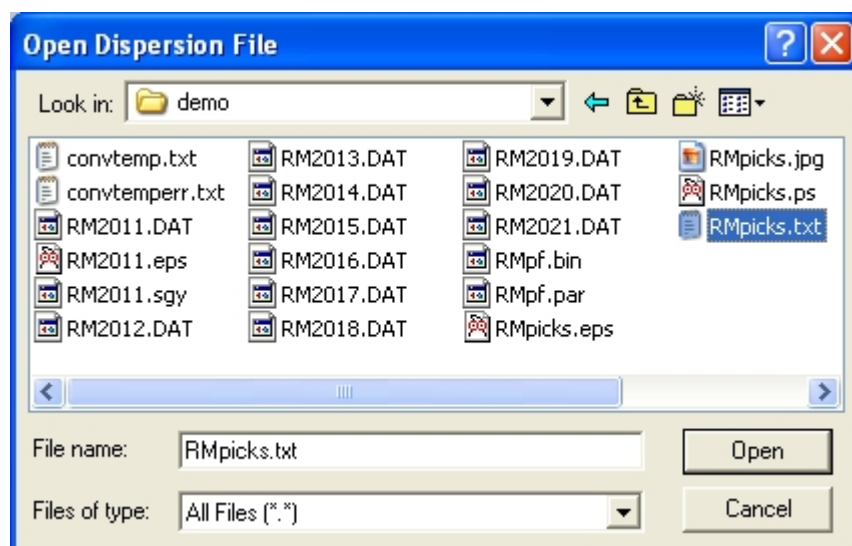

Figure 51: Select the pick file that was created during Step 6 of the Vspect processing sequence.
2. The dialog window shown in Figure 51 will open up. Choose the appropriate pick file that was save from the ReMi Vspect module (Section 3.6.2, Figure 44). For the "demo" data, this file is 'RMpicks.txt'.